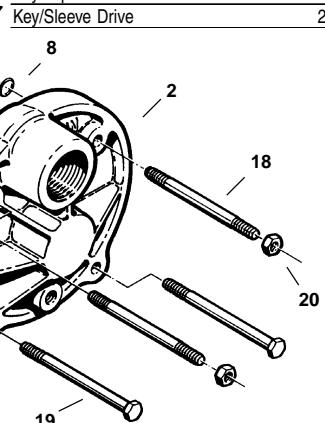

Figure 4-4
Refer to Figures 4-4 and 4-5 for reference to the numbered parts in the procedures below.
- c. The impeller hub should be facing out away from the motor bracket. Refer to Figure 4-4 and 4-5.
- 6. Place the cover over the studs and install the two (2) 3/8" nuts and two (2) 3/8"X4" bolts. Tighten the nuts and bolts systematically, alternating diagonally across the cover.
- 7. After the nuts and bolts are "snugged up", make sure the impeller is not binding by inserting a 5/32" hex wrench into the locking collar and moving it left to right. The collar should rotate with little or no resistance. If the collar will not turn, loosen the two (2) 3/8" nuts and bolts equally until the impeller moves freely.